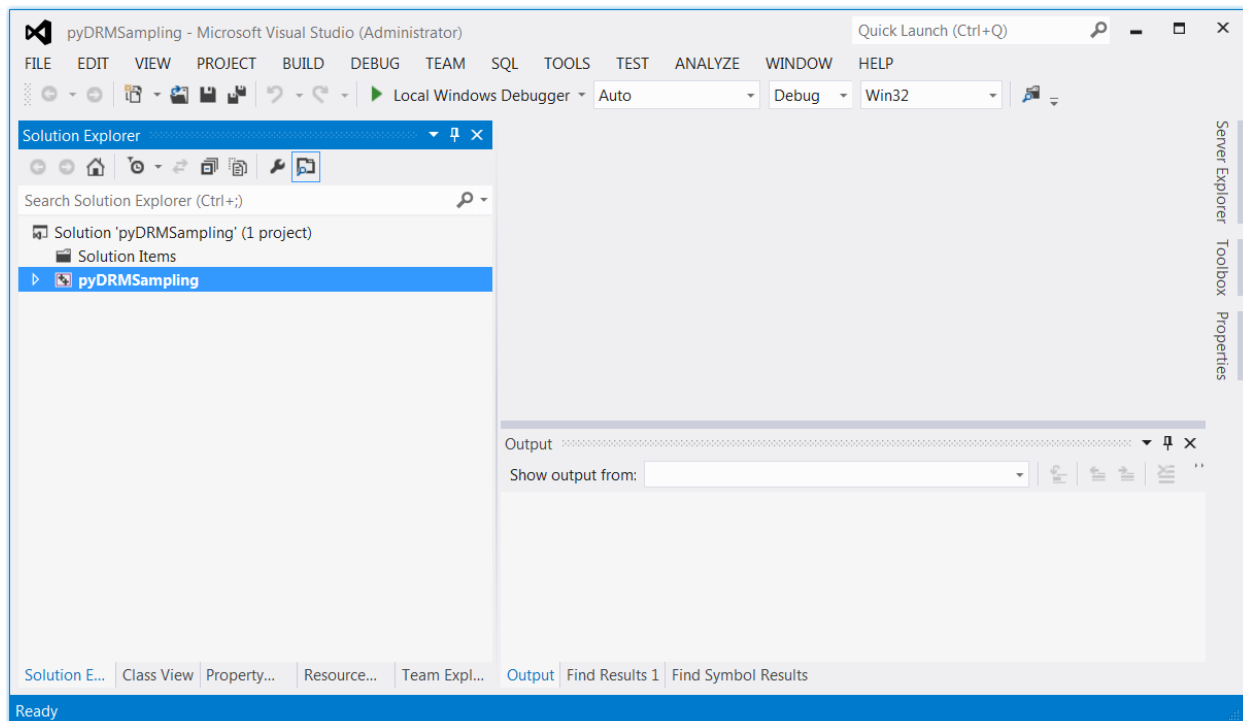

Figure 1. Visual Studio Window for pyDRMSampling Project
1. Open the visual studio solution file “pyDRMSampling.sln” and Microsoft Visual Studio GUI displays as shown in Figure 1. Note: The appearance